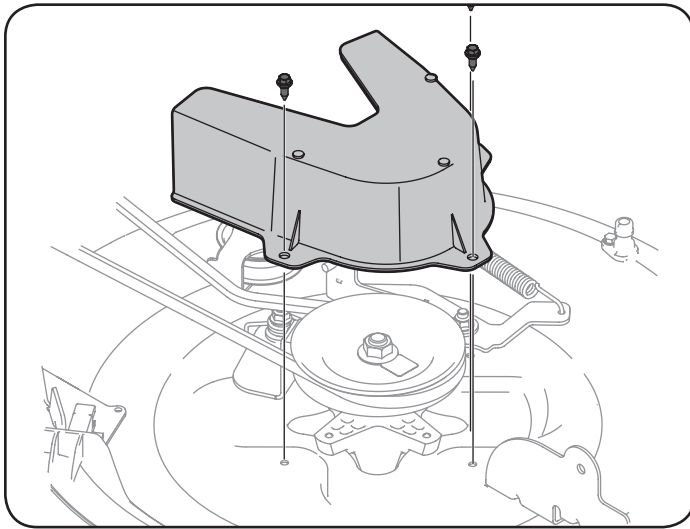

Figure 42
5. Remove the deck belt cover by removing the three hex bolts that secure it. See Figure 42.